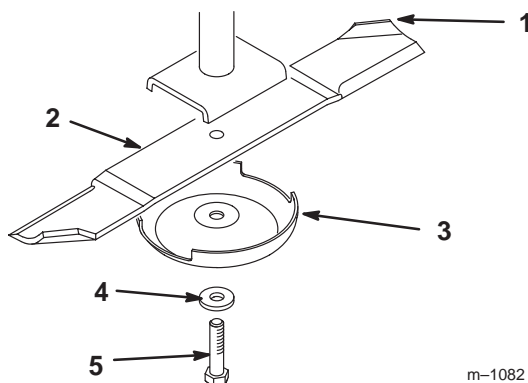
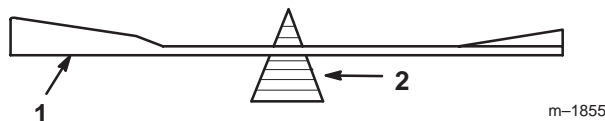

Figure 15
Figure 17
Hold the blade end using a rag or thickly-padded glove. Remove the blade bolt, washer, anti-scalp cup and blade from the spindle shaft (Fig. 15).
2. Check the balance of the blade by putting it on a blade balancer (Fig. 17). If the blade stays in a horizontal position, the blade is balanced and can be used. If the blade is not balanced, file some metal off the end of the sail area only (Fig. 15). Repeat this procedure until the blade is balanced.
1. Install the blade onto the spindle shaft (Fig. 15).
2. Install the lock washer and blade bolt (Fig. 15). Torque the blade bolt to 85–110 ft-lb (115–140 N•m).